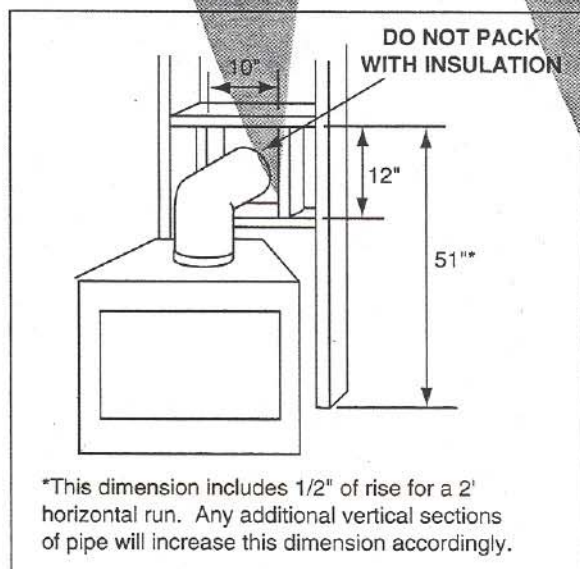

Figure 11
**d. Installing the interior wall shield.** Frame a hole in a combustible wall for an interior wall shield, as shown in Figure 11 whenever a wall is penetrated. This shield maintains minimum clearances and prevents cold air infiltration.